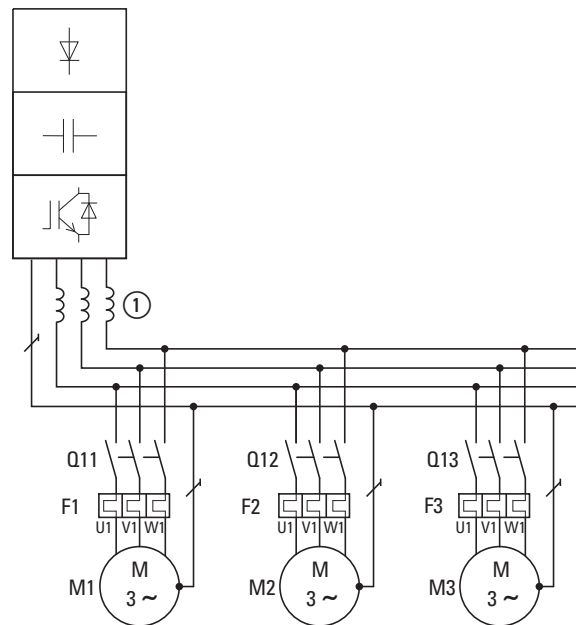

Figure 11: Parallel connection of several motors to one frequency inverter
Connecting motors in parallel reduces the load resistance at the frequency inverter output. The total stator inductance is lower and the leakage capacity of the lines greater. As a result, the current distortion is greater than in a single-motor circuit. To reduce the current distortion, you should use motor reactors (see ① in Figure 11) in the output of the frequency inverter (→ Section "8.11 motor reactor", page 250).